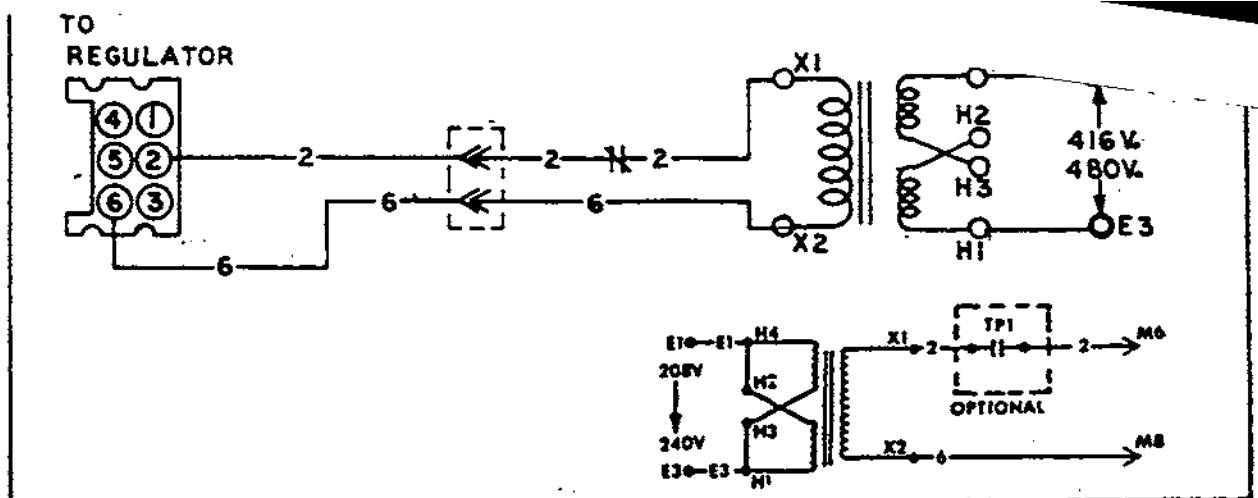

Figure 7.2-B. Generator Excitation Circuit
7.2.7- CHECK EXCITATION CIRCUIT WIRING (Figure 7.2-B)